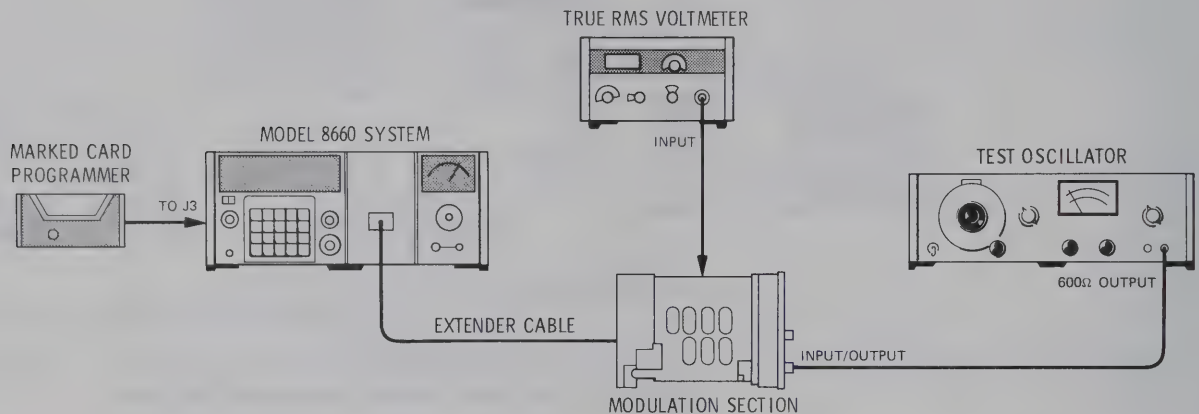

Figure 5-3. Remote Modulation Signal Level and Meter Adjustment Test Setup
2. Connect the equipment as shown in Figure 5-3. Remove the A3 Assembly and reinstall it using an extender board.